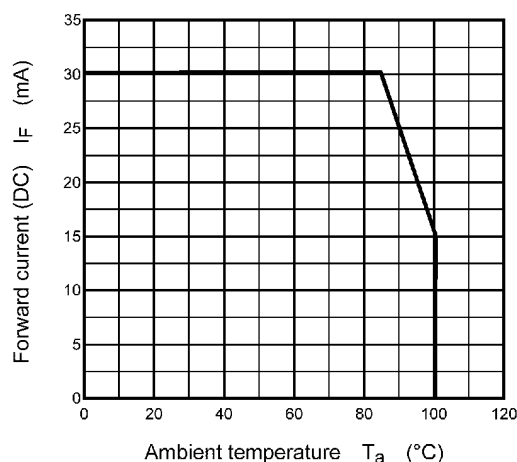

**Fig. 4.1 Forward Current Derating,  $I_F - T_a$**
| Forward current (DC)  | $I_F$     | See Fig. 4.1 | 30         | mA               |